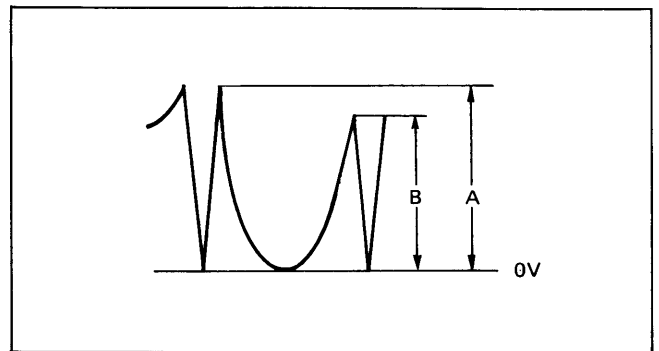

Fig. 29
- 9) Disconnect the oscilloscope from Pin ⑧ of connector C16, and connect the oscilloscope to Pin ⑤ of connector C16.
- 10) Adjust V. Para. waveform Adj. VR (R7192) so that the waveform becomes  $A = B$  as shown in Fig. 29.